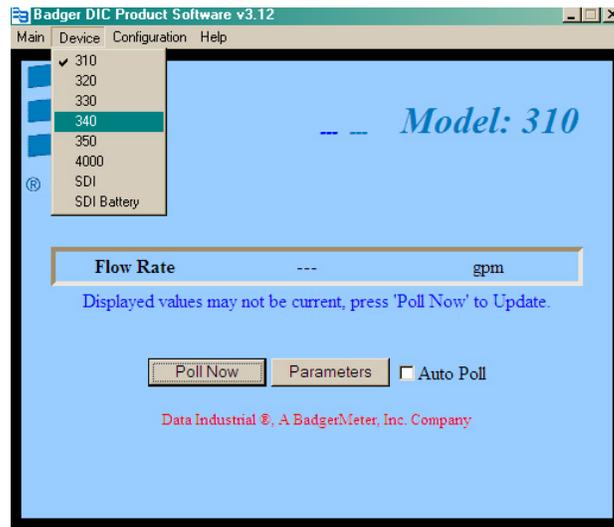

Figure 15: Select 340
4. Open the program and from the *Device* tab and select **340** as shown in *Figure 15*.